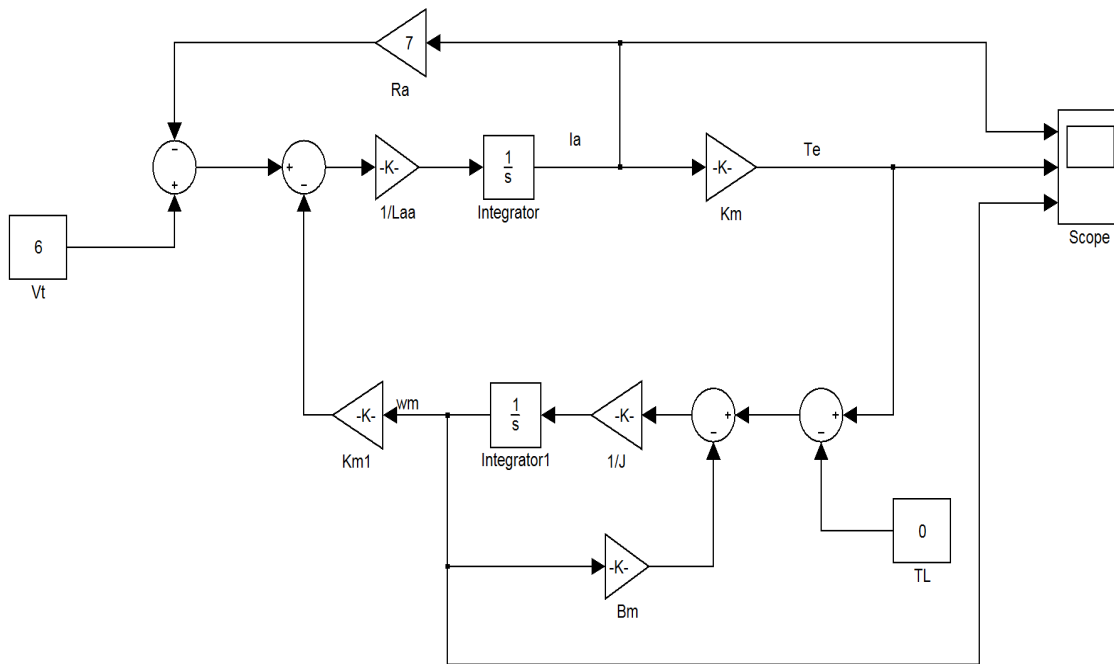

Fig. 2 Simulation diagram of permanent-magnet dc machine under no load.
2. Arrange the blocks in the order shown in Fig. 2 (Duplicate blocks wherever required). Consider  $T_L$  (load torque) initially to be zero.